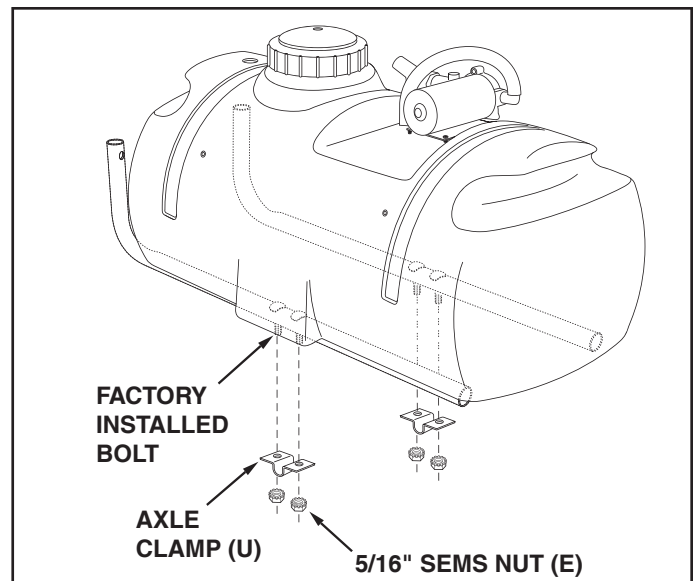
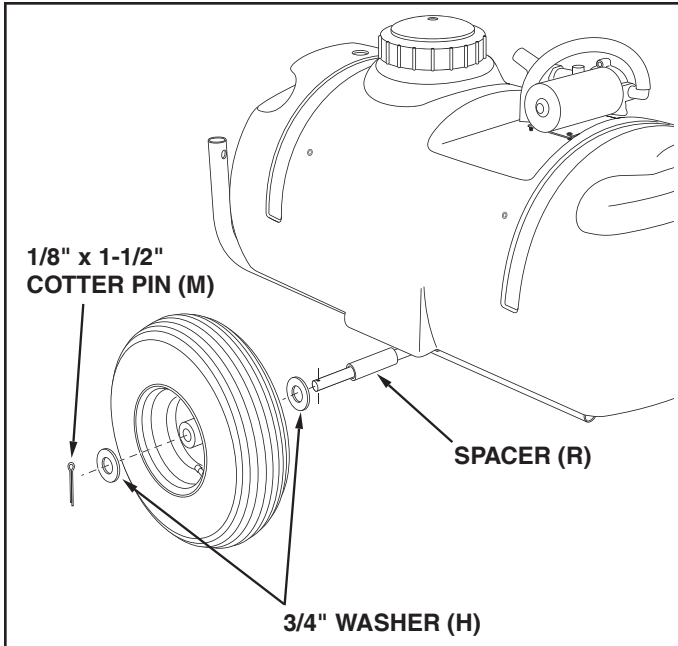

FIGURE 1
FIGURE 2
- (1) Hammer
STEP 1: (SEE FIGURE 1)
- Assemble the axle clamps (U) and four 5/16" hex nuts (SEMS) (E) to the factory installed bolts in the frame tubes. **Do not tighten yet.**
STEP 2: (SEE FIGURE 2 AND 1)
- Assemble a spacer (R), a 3/4" washer (H), a wheel (valve stem facing out) and another 3/4" washer (H) onto the axle. Assemble a cotter pin (M) through the end of the axle. Repeat on other end.
- **Tighten** the four nuts which fasten the axle clamps to the frame tubes. Refer back to figure 1.